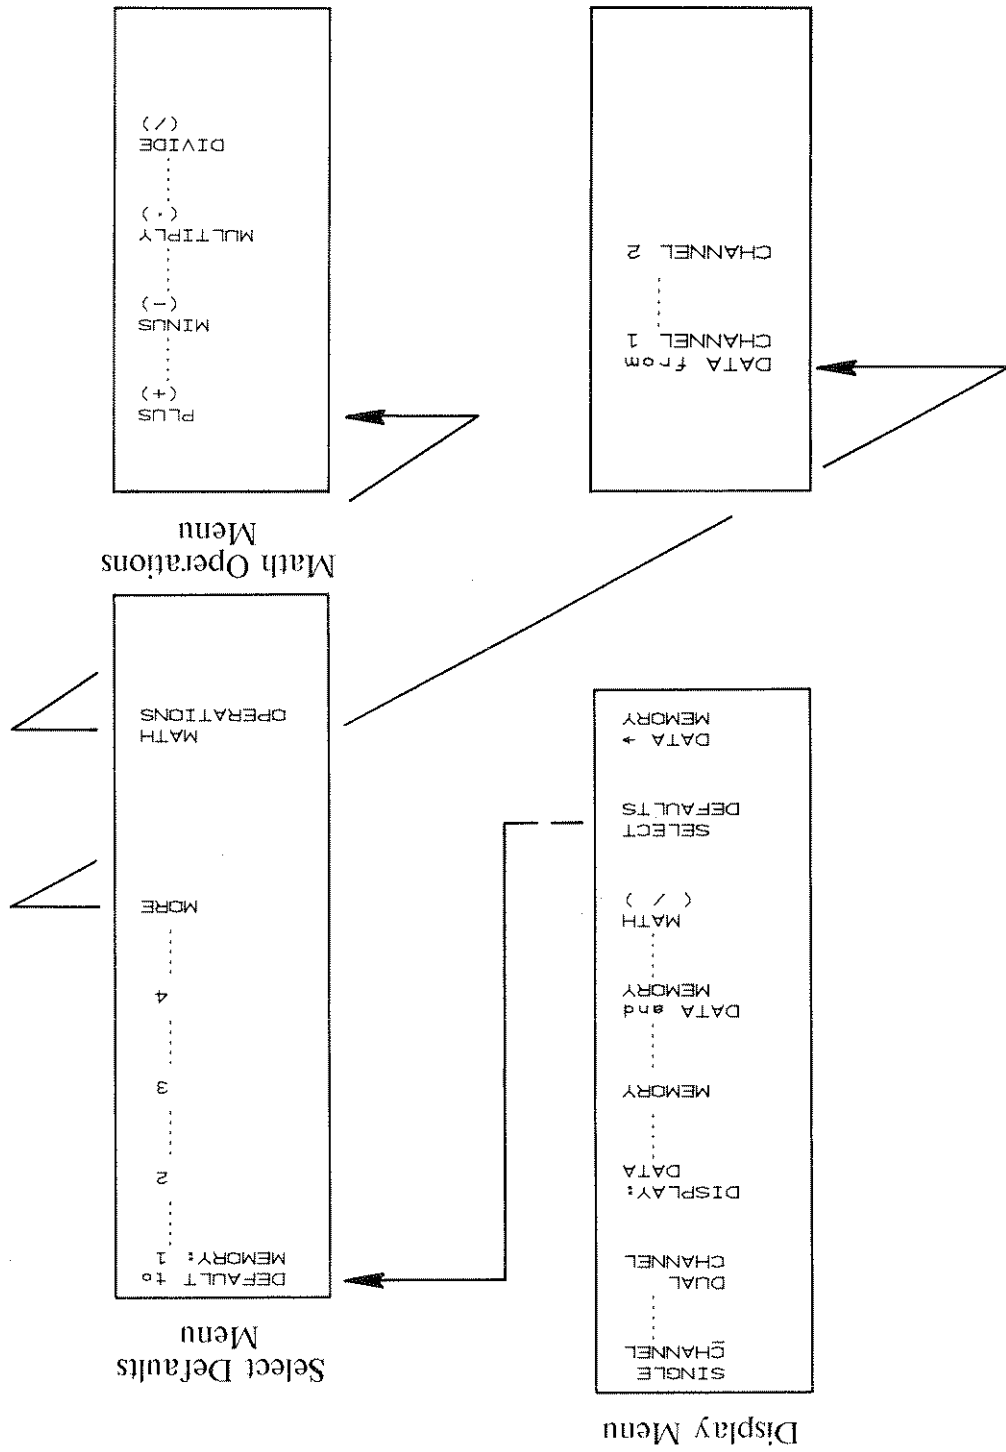

Figure 45. Select Defaults and Math Operations Menus
- On the Display Menu, press SELECT DEFAULTS. This will bring the Select Defaults Menu (Figure 45) onto the CRT display.
- Press MATH OPERATIONS. This will bring the Math Operations Menu (Figure 45) onto the CRT display. The current selection will be underlined.
- This will bring the Select Defaults Menu (Figure 45) onto the CRT display. The current selection will be underlined.
Pressing the SELECT DEFAULTS softkey on the Display Menu brings the Select Defaults Menu (Figure 45) onto the CRT. Choices on this menu make it possible to store trace data in any of four memory locations. Memory locations can be selected independently for Channel 1 and Channel 2.